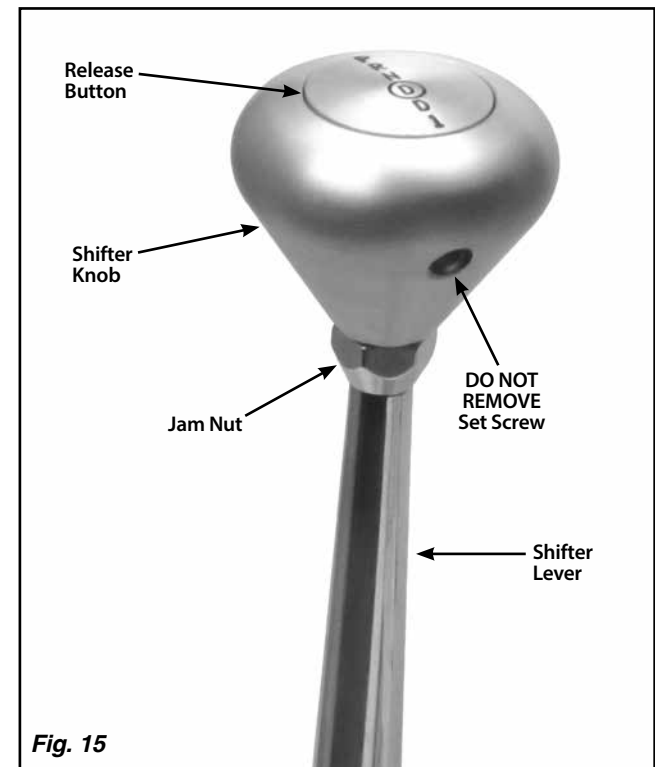

Fig. 15
Step 2: Loosen the jam nut below the shifter knob by turning it **clockwise**. **DO NOT** loosen or remove the set screw that is in the knob. **Fig. 15**